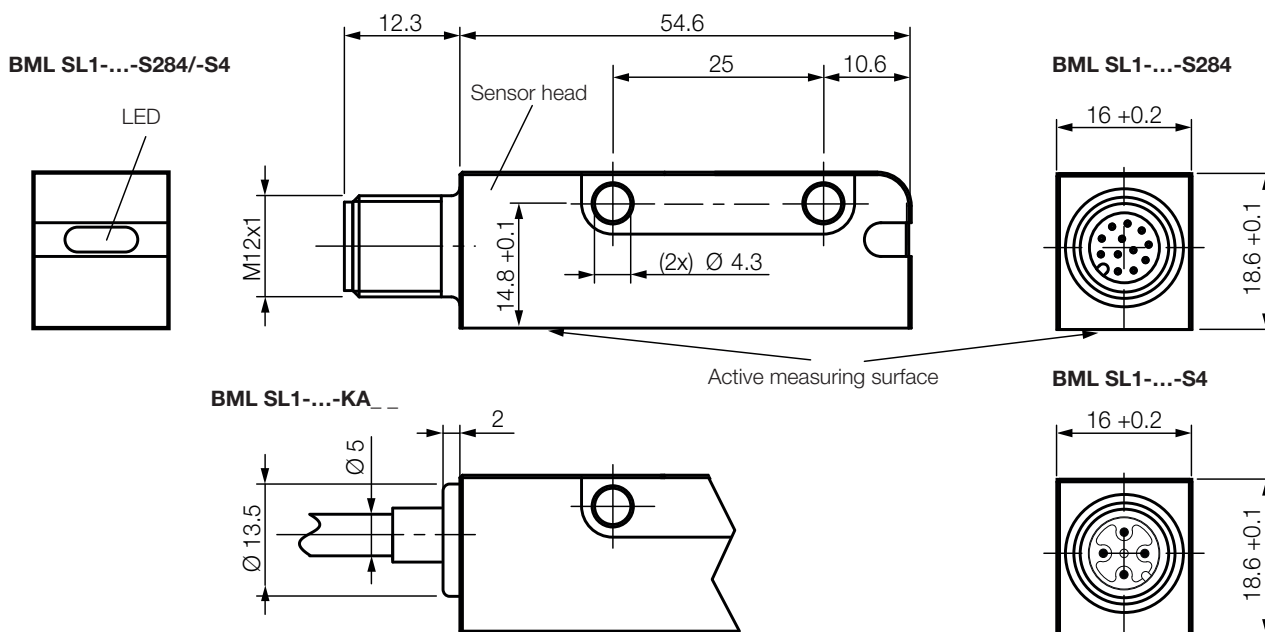
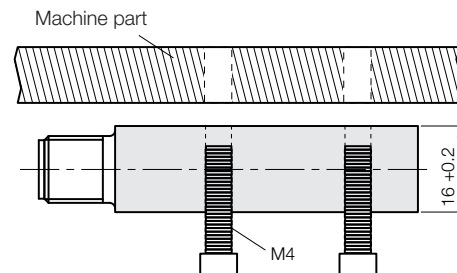
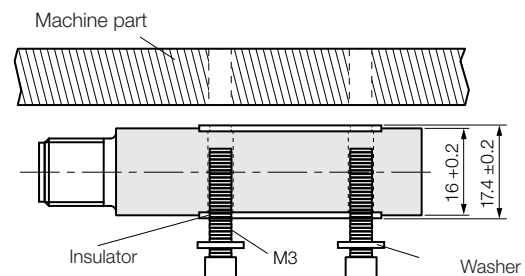

Fig. 3-1: BML SL1-..., construction
Fig. 4-4: Installing sensor head (without insulators)
Fig. 4-5: Installing sensor head with insulators
3. Taking into account the distances and tolerances (see Section 4.3.3 on page 11 and Section 4.3.4 on page 12) install the sensor head with its right or left side on the machine part (see Fig. 3-1 on page 7 and Fig. 4-4 and Fig. 4-5).